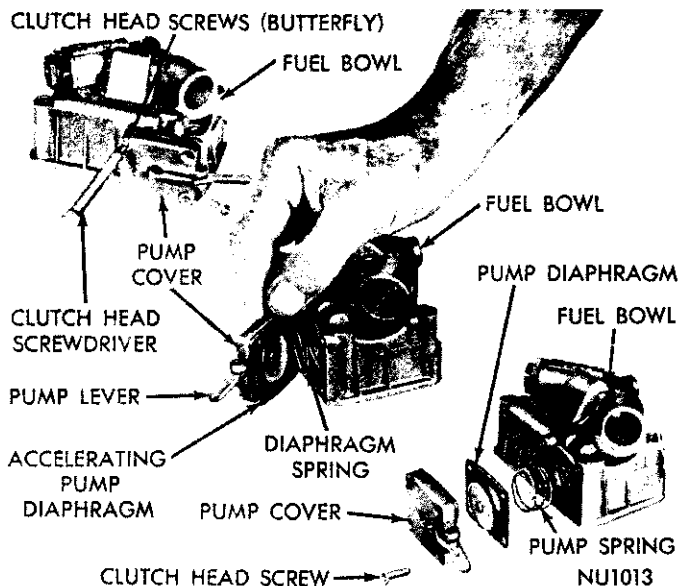
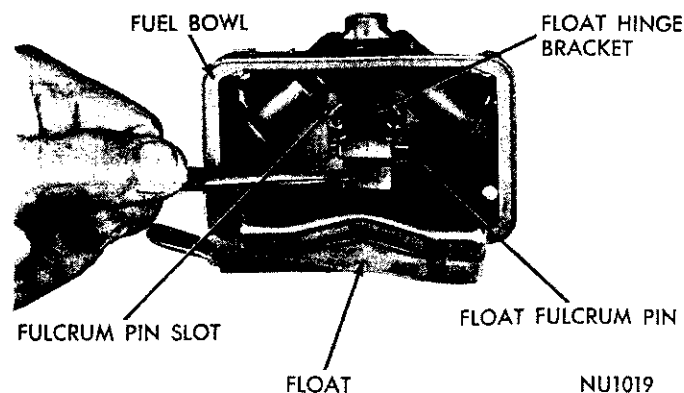

Fig. 14—Removing or Installing Accelerating Pump
Fig. 20—Installing Float Assembly
(1) Place a new gasket over fuel inlet fitting, then install fitting in fuel bowl. Tighten securely.
(2) Install accelerator pump spring in position in fuel bowl, followed by diaphragm and pump cover. (When installing diaphragm, be sure contact button rivet head is toward pump lever in cover (Fig. 14). Install clutch head screws and tighten securely, using Tool CL-13.
(3) Install sight plug and new gasket in bowl.
(4) Slide float and hinge bracket in position in bowl, with fulcrum pin seated in slot. Install attaching screws and tighten securely (Fig. 20).